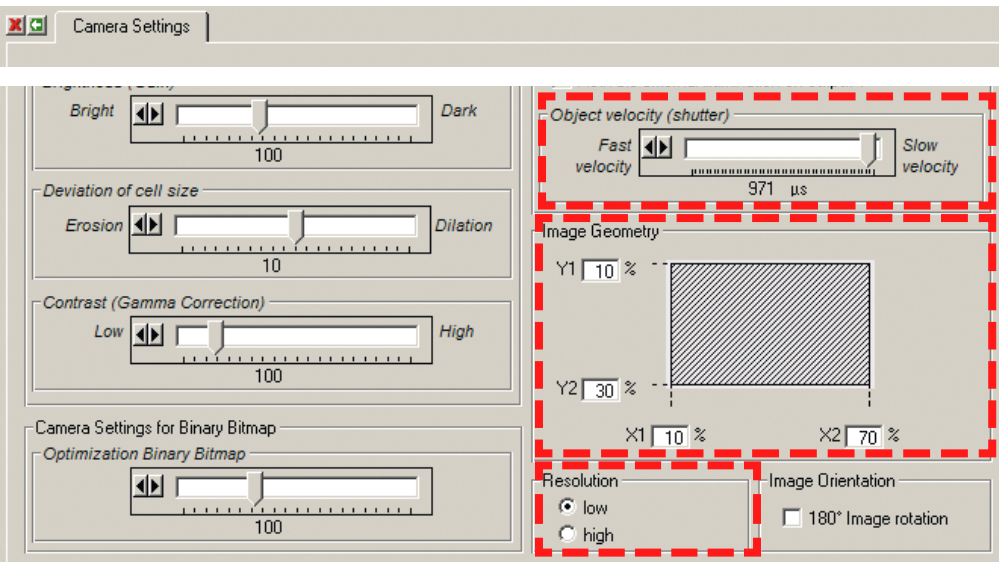

Fig. 7b: CLV-Setup: Values for calculating the duty cycle of the external illumination and the parameter values affecting the duty cycle
The following, combined settings affect the permissible duty cycle (see also Fig. 7b, Page 14):
- Display the DEVICE CONFIGURATION tab (Fig. 7b, Page 14).